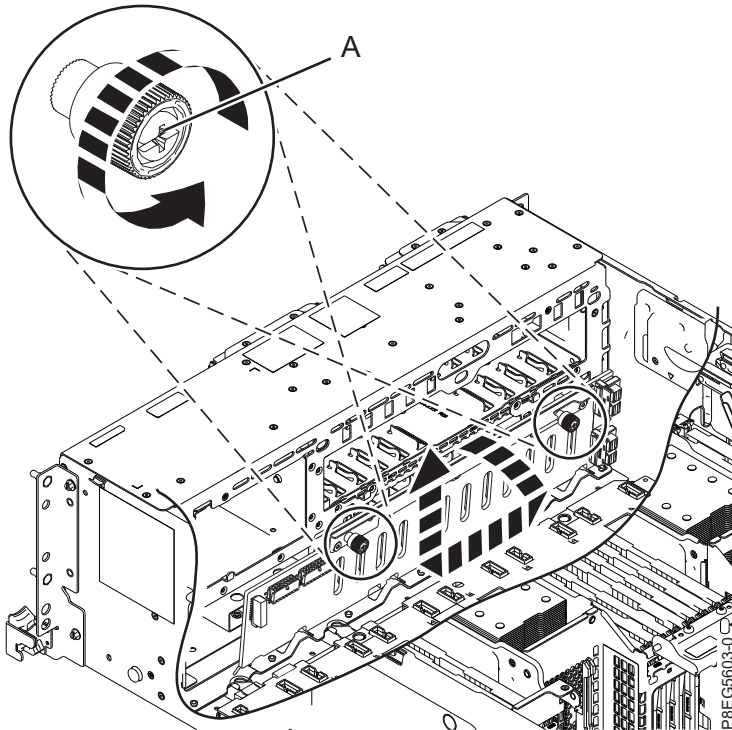

Figure 5. Removing the disk drive backplane
7. Carefully unscrew the disk drive backplane's captive thumbscrews (**A**) until fully loose as shown in Figure 5.
8. Tilt the disk drive backplane in the direction that is shown in Figure 5, then slide it to the side so that the backplane cutouts clear the tabs in the chassis.